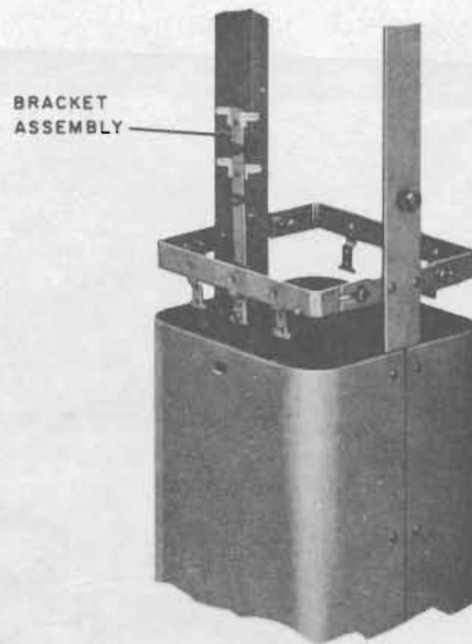

Fig. 53—Bracket Assembly Installed
14.03 Install the bracket assembly on the closure ground bracket with the nuts and bolts provided. The plastic clips and AT-7796X connectors (terminal blocks) are faced to the inside of the closure (Fig. 53).